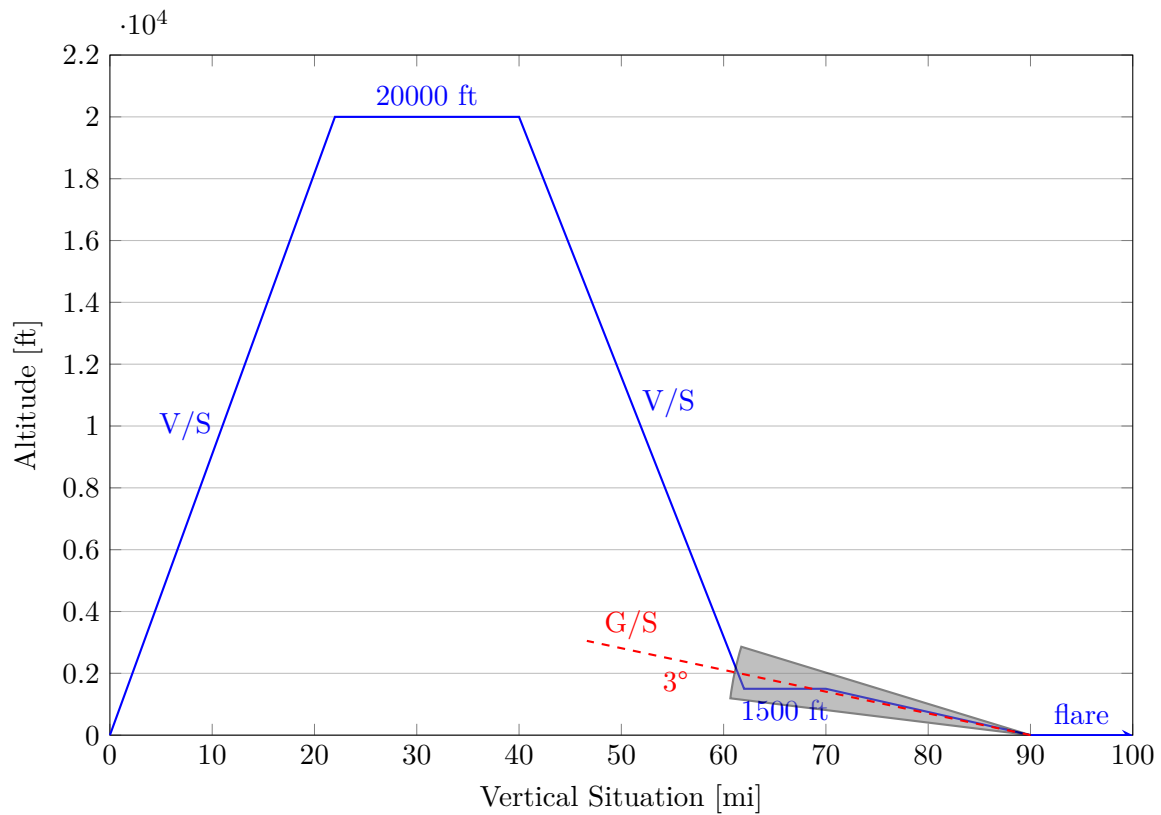

Figure 2: Longitudinal Autopilot
- Include an altitude select to your longitudinal autopilot as shown in figure 2. Start from an initial altitude of 0 ft and make a steady climb to 20000ft with a pitch angle limit of 20 deg. Maintain airspeed at $400 \frac{\text{ft}}{\text{s}}$. Fly for 20 mi. **Record your results and plot altitude, angle of attack, and elevator deflection versus time.**
- Include an automatic landing system with GS/ILS into the longitudinal autopilot of the aircraft as shown in figure 2. Start the descent from an altitude of 1500 ft and an airspeed of $250 \frac{\text{ft}}{\text{s}}$. Maintain constant airspeed and a pitch angle between -5 deg to 5 deg. Choose $\gamma_{\text{ILS}} = -2.5$ deg. Include an autoflare such that, at an altitude of 70 ft above the ground, the rate of descent of the aircraft is reduced to less than $2 \frac{\text{ft}}{\text{s}}$. **Be sure to include altitude, pitch, pitch rate, angle of attack, descent rate, elevator deflection, and glide-path deviation in your plots!**